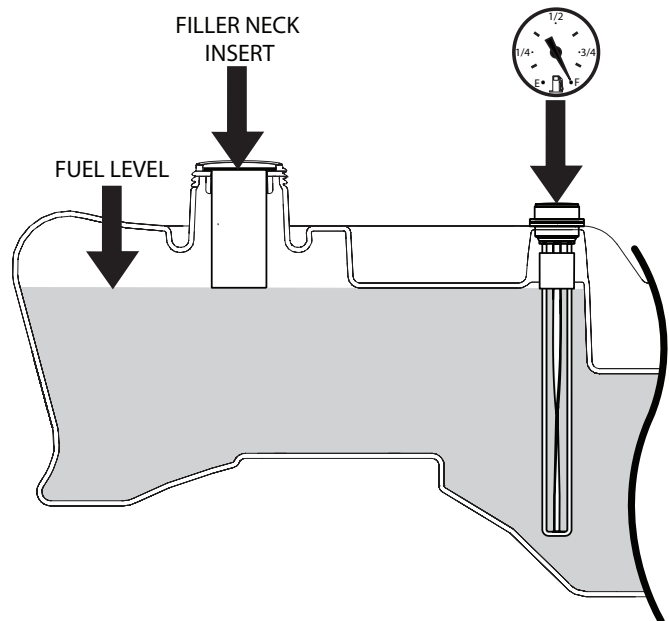

Figure 7-6. C.A.R.B. / EPA Phase 3 Fuel Level
Fill to the bottom of the filler neck insert (approximately 6-1/2 gallons on SFZ48 indicating Full (F) on the fuel gauge) at the beginning of each operating day. See Figure 7-6. Do not overfill. Use clean, fresh unleaded gasoline with a minimum octane rating of 87 and a maximum of 10% Ethanol.